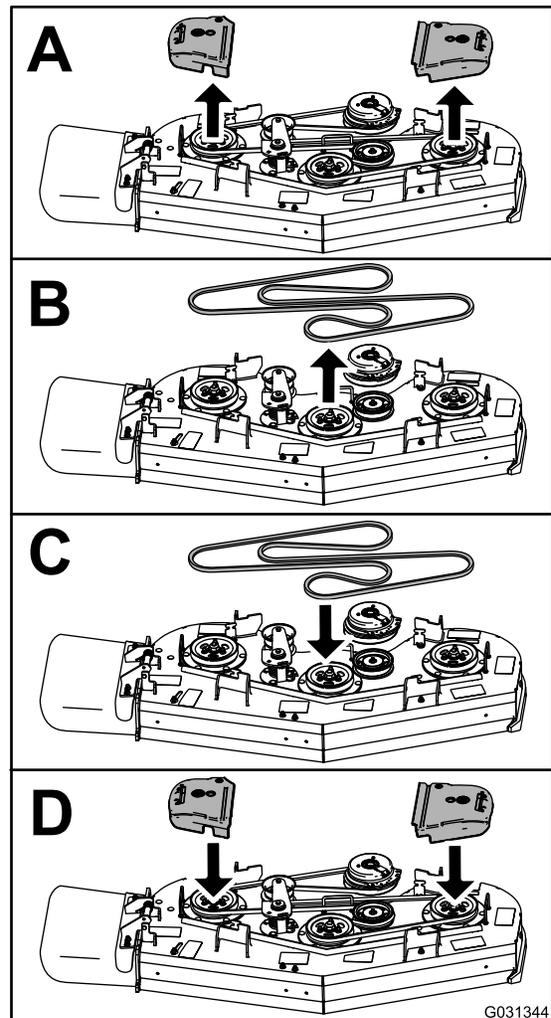

Figure 66
3. Replace the belt as shown in Figure 66.